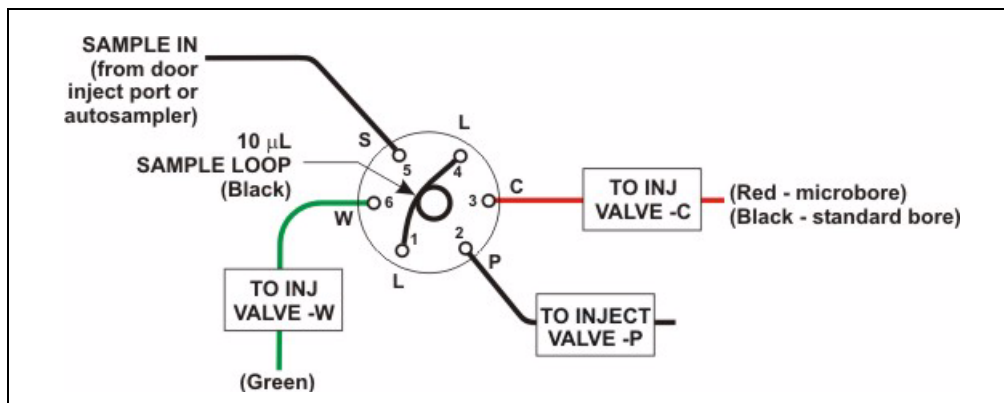

Figure 2-18. Injection Valve Plumbing (6-Port Valve)
Figure 2-18 shows the injection valve connections for the 6-port valve. The injection valve is plumbed at the factory with all tubing and fittings for connection to the pump, sample loading port, column, and waste. A 10 μ L PEEK™ sample loop (P/N 042949) is installed between ports L (1) and L (4).